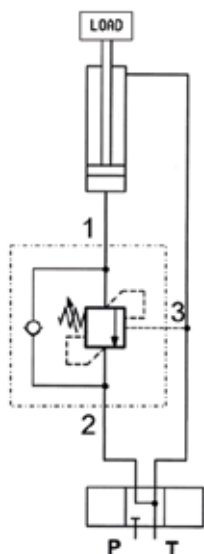

FIGURE 1
With reference to Figure 1, during descent, the pressure acting on the rod side of the cylinder also acts on the pilot line (3) of the valve, aiding its opening.
Load-induced pressure also pushes the cylinder downward. We call the pressure on the port (3) P_p , the load-induced pressure P_c , the setting pressure of the valve P_{TAR} and the pilot ratio R. Neglecting back pressure, for a scheme as in Figure 1, we have that the minimum pressure required to operate the valve descent P_p is: